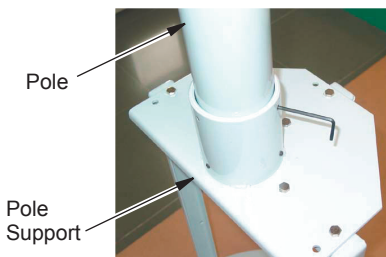

Figure 3 - Pole to Pole Support
- Attach pole to pole support (Figure 3). Place pole into pole support center connector. Tighten six set screws with hex allen wrench supplied with heater. **Note:** Set screws are threaded inside post support.